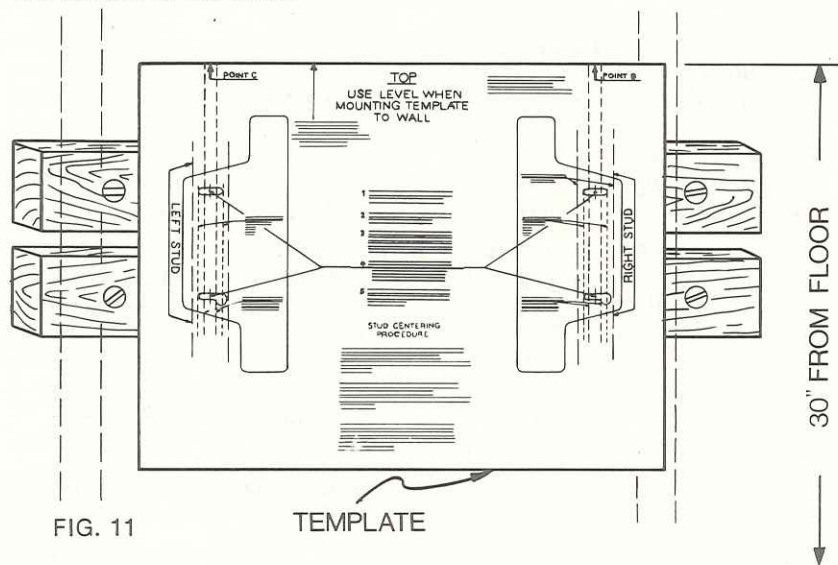

FIG. 11
12. Remount the template in the center of the two boards as shown in Figure 11. Perform steps 5 through 8 under MOUNTING ON WOOD STUDDED WALLS—16" ON CENTER ON PAGE 4.